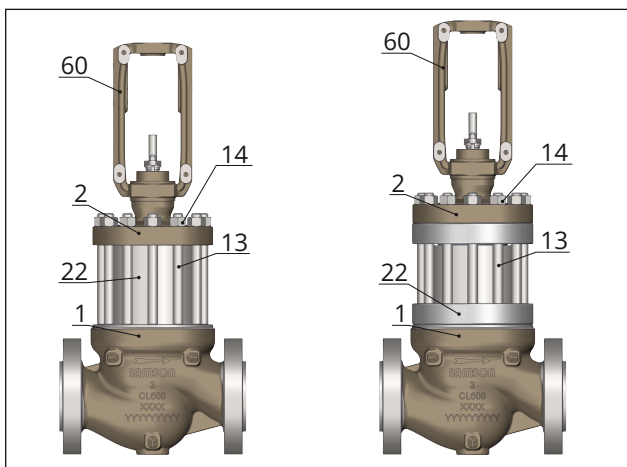
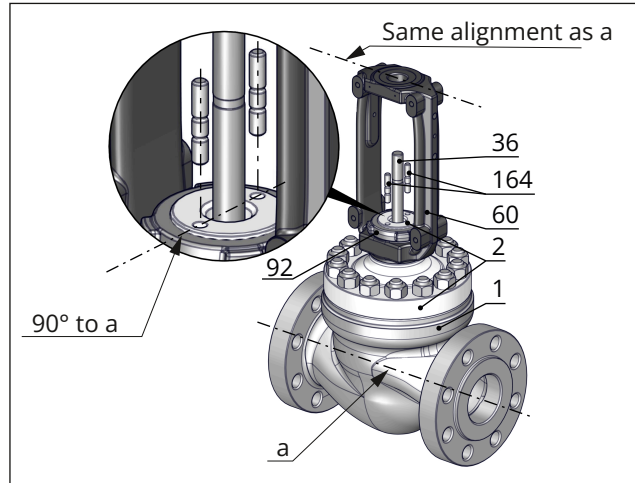

Fig. 23: Mounting versions of the intermediate piece
Fig. 26: Alignment of bonnet on the valve body and alignment of yoke on the bonnet
1. Place the valve bonnet (2) including yoke (60) from the top vertically over the plug stem (36) (depending on the version, see Fig. 23) on the intermediate piece (22) without fastening it. Observe the alignment (see Fig. 26). The two bore-holes on the top of the bonnet must be at a right angle to the pipeline axis.
2. Firmly press the plug (5) into the seat (4). At the same time, fasten the valve bonnet (2) using the body nuts (14). Tighten the body nuts (14) gradually in a crisscross pattern. Observe tightening torques.
1. Remove the valve bonnet (2), see section “a) Removing the standard bonnet” in Chapter 9.4.1.
2. Pull all the packing parts out of the packing chamber in the valve bonnet (2) using a suitable tool.
3. Remove the spiral wound gaskets (17, 126) from the intermediate piece (22) and cylinder (463) or valve bonnet (2).
4. Use the special tool to remove the cylinder (463) upward out of the intermediate piece (22). During the removal procedure, press the plug stem (36) downward. This helps overcome the static
- friction between the seal (45) and plug (5) to ensure that the trim remains in the body (1).
5. Pull the plug (5) and plug stem (36) upward out of the liner (424) and remove them from the valve body (1) and intermediate piece (22).
6. Remove the liner (424) upward out of the valve body (1) and intermediate piece (22).
7. Depending on the mounting version of the intermediate piece (see Fig. 23), lift the intermediate piece (22) off the valve body (1).
8. Remove the spiral wound gasket (17) from the valve body (1).
9. Remove the seat (4) from the valve body (1).
10. Remove the flat gasket (197) from the seat (4).
11. Remove the spiral wound gasket (127) from the valve body (1).